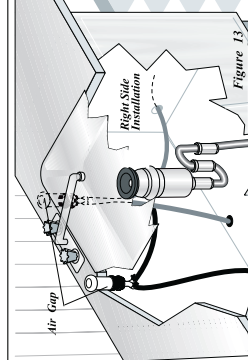

Figure 13
- If you connect to a sink trap, local codes may require you to install an air gap kit, (not included). The drain hose will be routed from dishwasher to air gap inlet as shown in **Figure 13**. An air gap kit is available from a plumbing supply store. (If the drain hose is installed through the floor, an air gap is necessary).